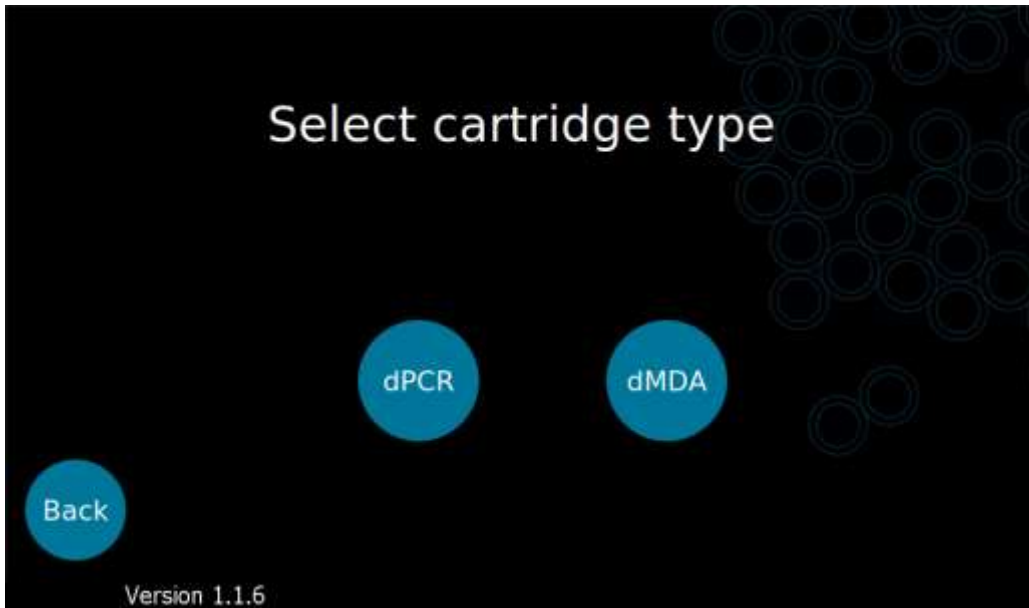

Fig. 3.6. The Xdrop instrument “Select cartridge type” screen. Select dPCR cartridge.
15. The Xdrop instrument can operate with either dPCR or dMDA cartridges. Use the dPCR cartridge option by selecting “dPCR” on the touchscreen (Fig. 3.6).